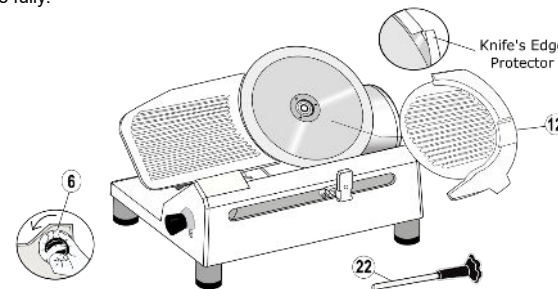

FIG 1. HOW TO REMOVE THE KNIFE'S EDGE PROTECTOR
C.- Take out the carriage assembly. Do the same with the base unit Assy by lifting from the base (10), (exercise proper lifting method, preferably do this procedure with two persons).
E.- Remove the knife edge protector by following the next instructions (See Fig. 1):
- Rotate the slice adjusting knob (6) counter clockwise until it stops.
- Remove the knife guard plate (12) by loosening the knife guard knob (22).
- Once the knife edge protector is removed, Assemble again the knife guard plate (12) and assure it with the knife guard knob (22). Close the thickness gauge plate (5) by rotating the slice adjusting knob (6) clockwise fully.